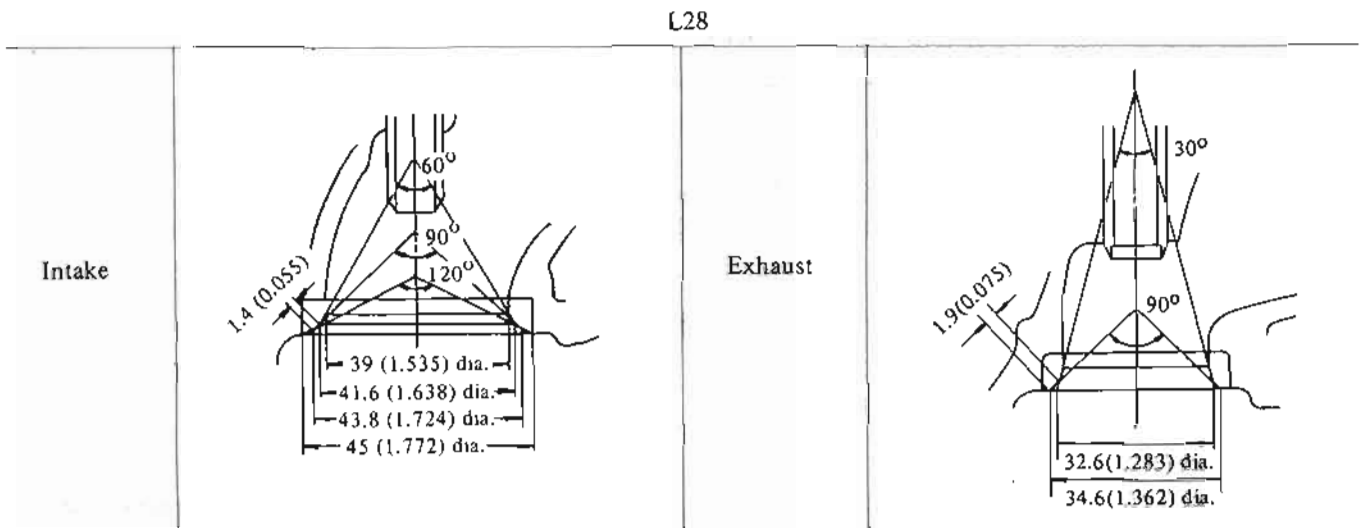

Fig. EM-47 Standard valve seat dimensions
- dimensions as shown in Figure EM-47.